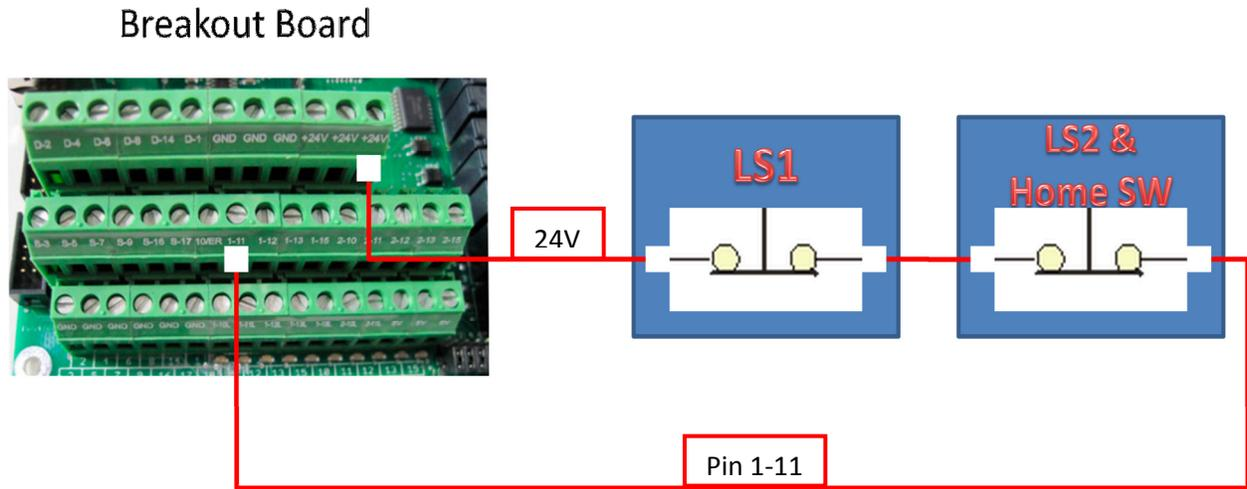

Figure 45 Limit Switches in Series
2. Wire the two switches together in series as shown in Figure 45. Make sure to wire the switches using their normally closed contacts.
- Setup the active state. Under the active low column you can change the active state by clicking on the "X" or check mark. For normally open, the green check mark should be used. Accordingly, for normally closed switches, the red "X" should be selected. If your limits are wired as shown in Figure 45 then this column should have the red "X".